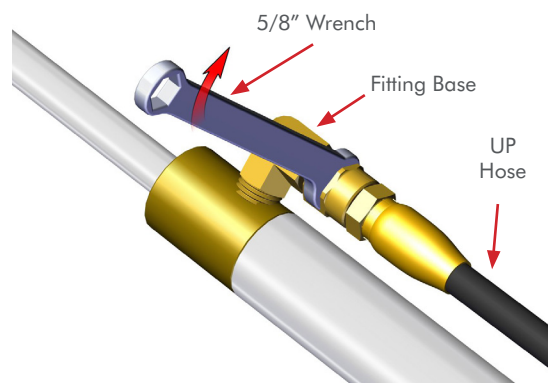

Figure 9
STEP 6 Finish tightening by turning the **Hose Fitting** a quarter turn with a **5/8" Wrench**. **FIG 9**